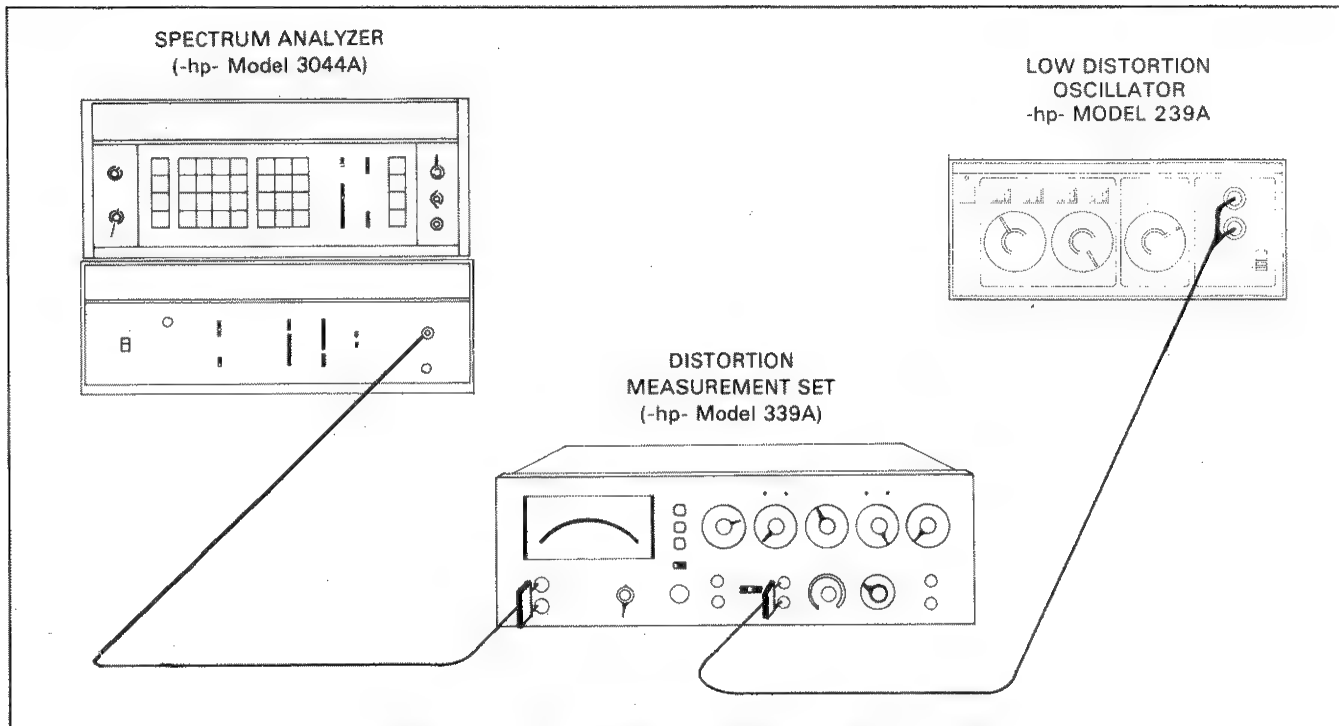

Figure 4-10. Fundamental Rejection and Induced Distortion Test.
- b. Connect the equipment as shown in Figure 4-10.